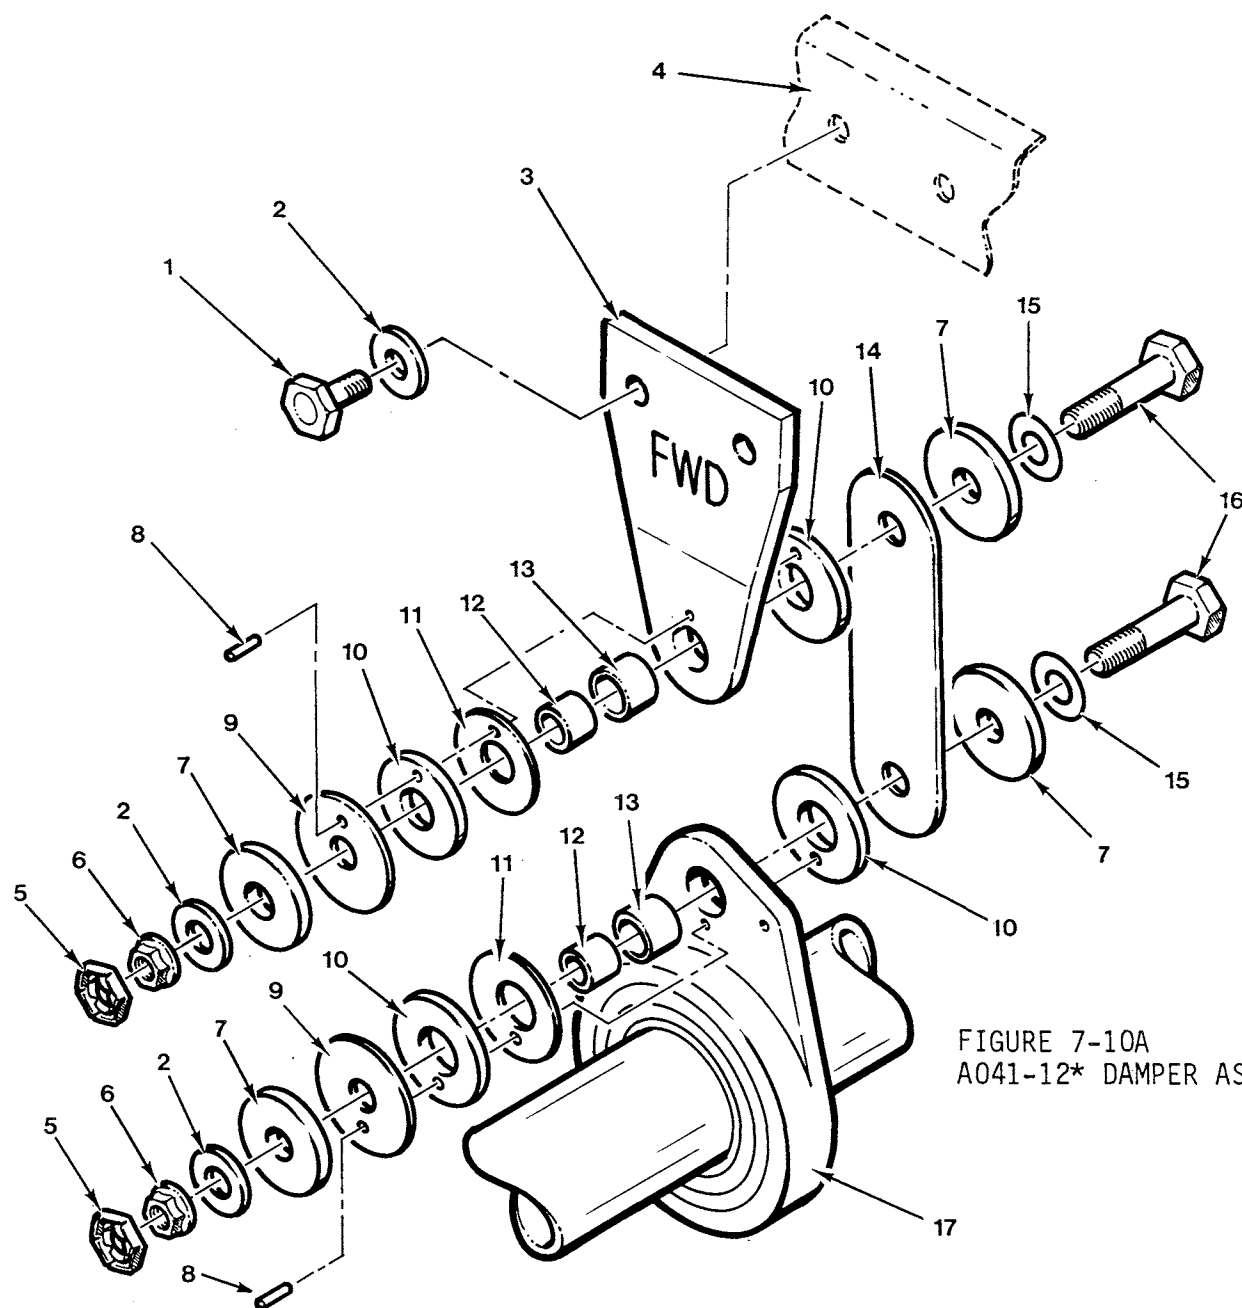

FIGURE 7-10A
- b) Disassemble damper per Figure 7-10 or Figure 7-10A, as applicable.
- d) Assemble damper per Figure 7-10 or Figure 7-10A, as applicable. Install spring washers with concave face toward A041-5 DU washers.